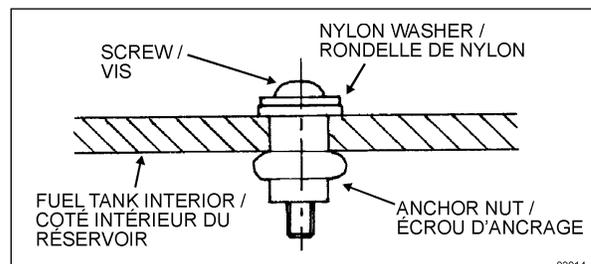

FIGURE 30: FUEL TANK REPAIR 03014
7. Shim arrangement may vary and may be stacked on both sides (Figure 30).